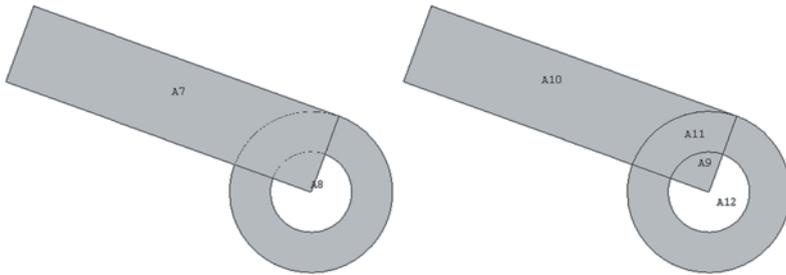

Fig. 9.35 Areas before (left) and after (right) overlapping
- Figure 9.35 shows the areas before and after overlapping.